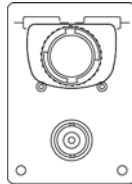

Figure 19 Signal to Both Inputs
- 9 Connect the input of the probe to the test board in the position shown in Figure 19.